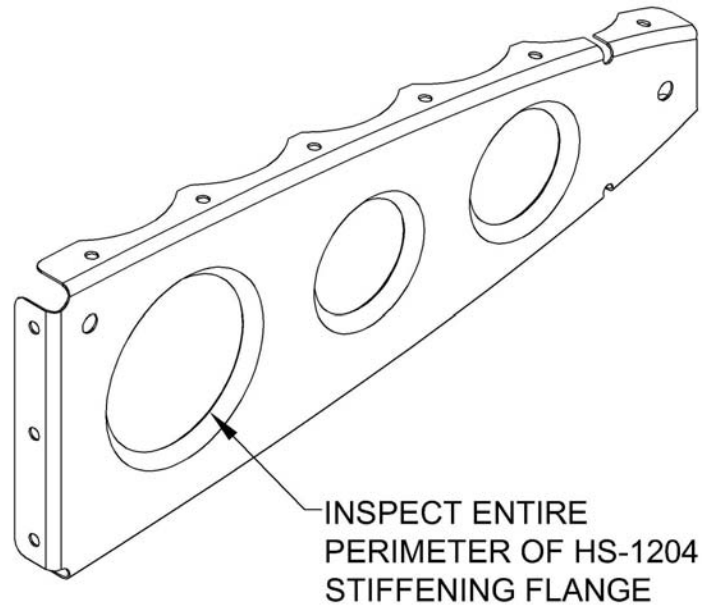

Figure 2
Step 10: Inspect the four inboard-most HS-1204 Fwd Inbd Ribs for cracks in the stiffening flange of the aft lightening hole as shown in Figure 2.